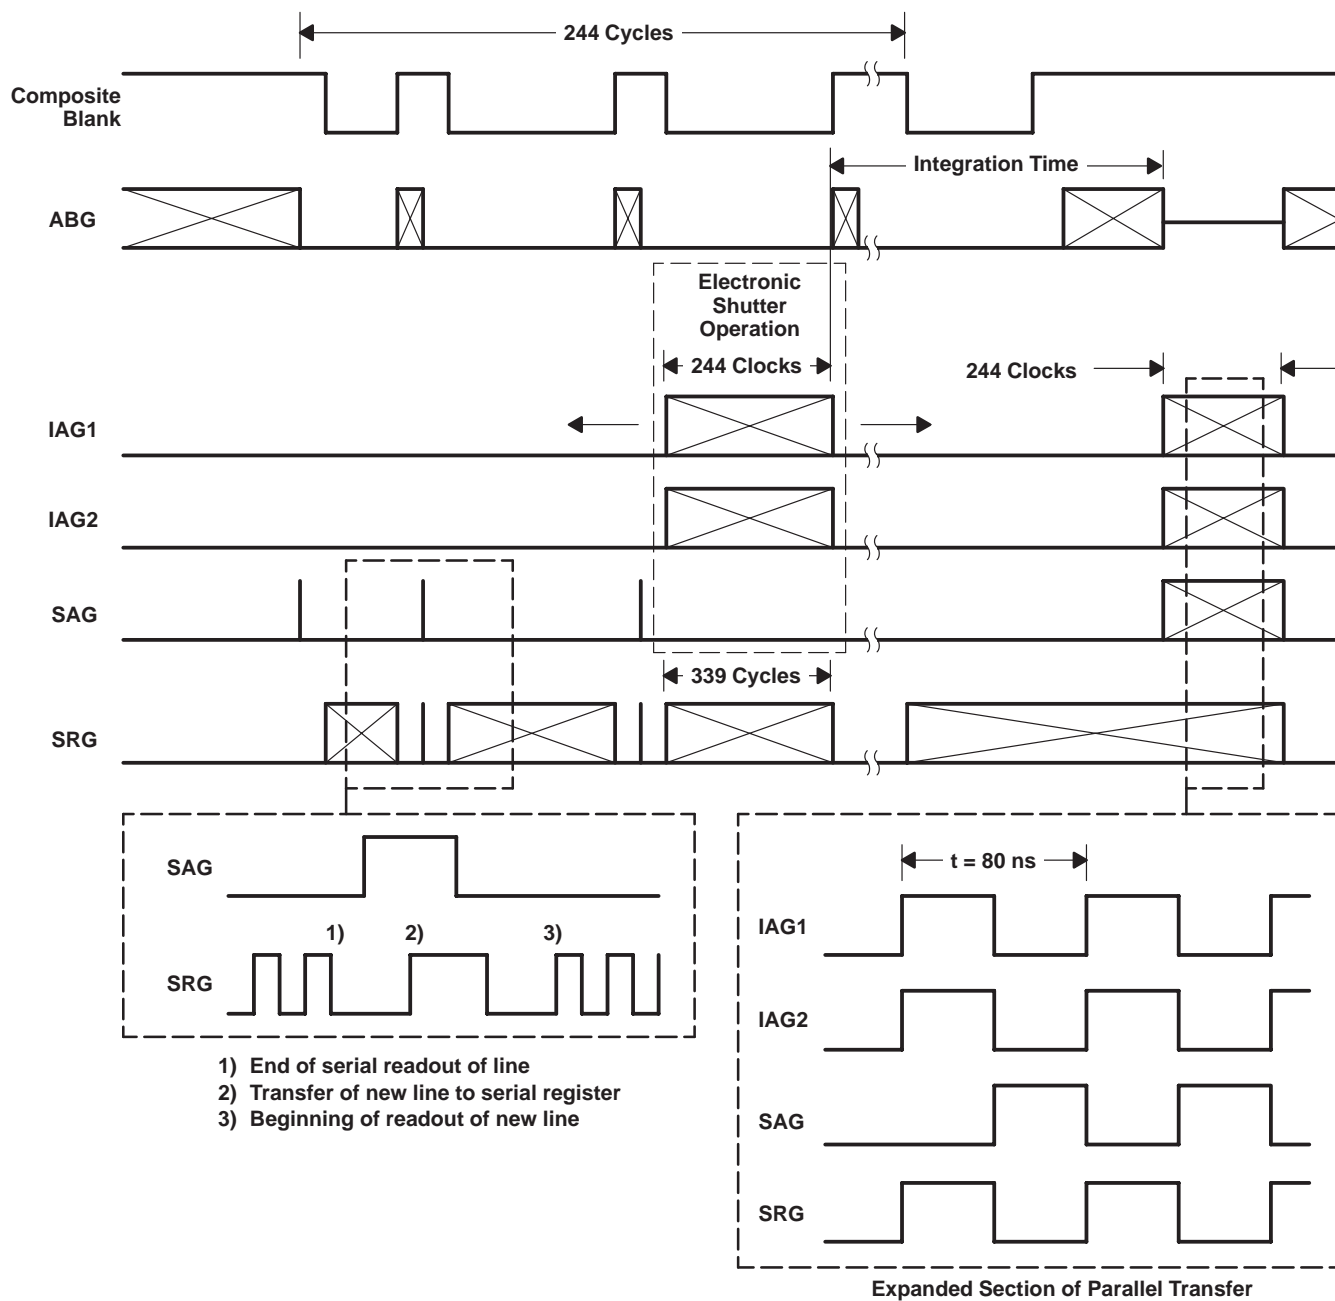

Figure 3. Timing Diagram
After exposure, the charge captured in each image-area is transferred through the image clear line to the storage area. The stored charge is then transferred line by line into the serial register for readout. Figure 3 illustrates the timing to (1) transfer the image to the storage area, and (2) to transfer each line from the storage area to the serial register.
Each line, after it is clocked into the serial register, is read out pixel by pixel. Figure 3 illustrates the serial-register clock sequence.